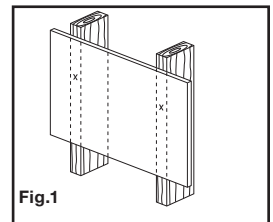

Fig.1
3. Drill two 5 mm (3/16") pilot holes in the wall using the template as a guide. Drill one hole per stud (see Fig. 1).